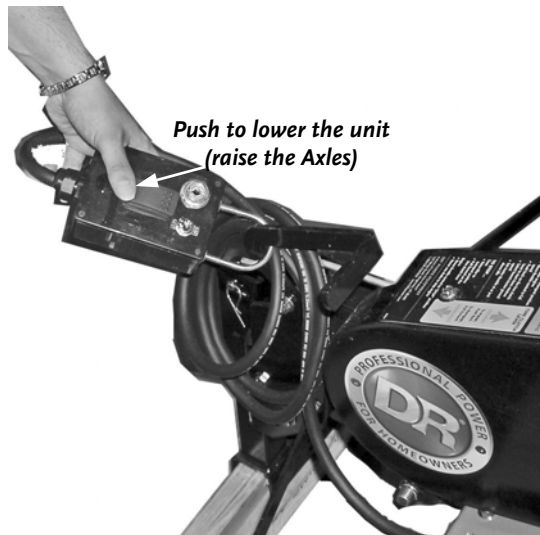

Figure 8
10. Using the Control Box (**Figure 8** on page 15), lower the Tines all the way down, which will raise the Wheel Axles from the pallet.